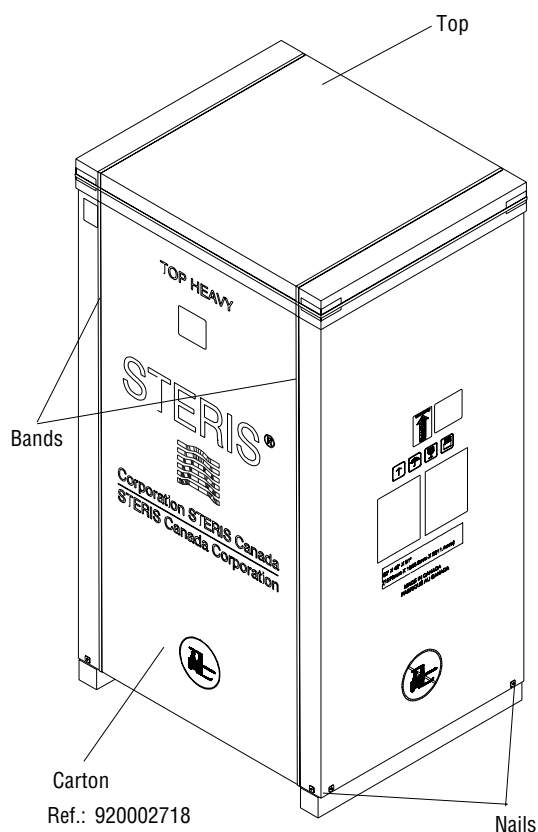

Figure 2-1. Crate
2. Carefully cut and remove bands from crate (see Figure 2-1). Discard bands before continuing.